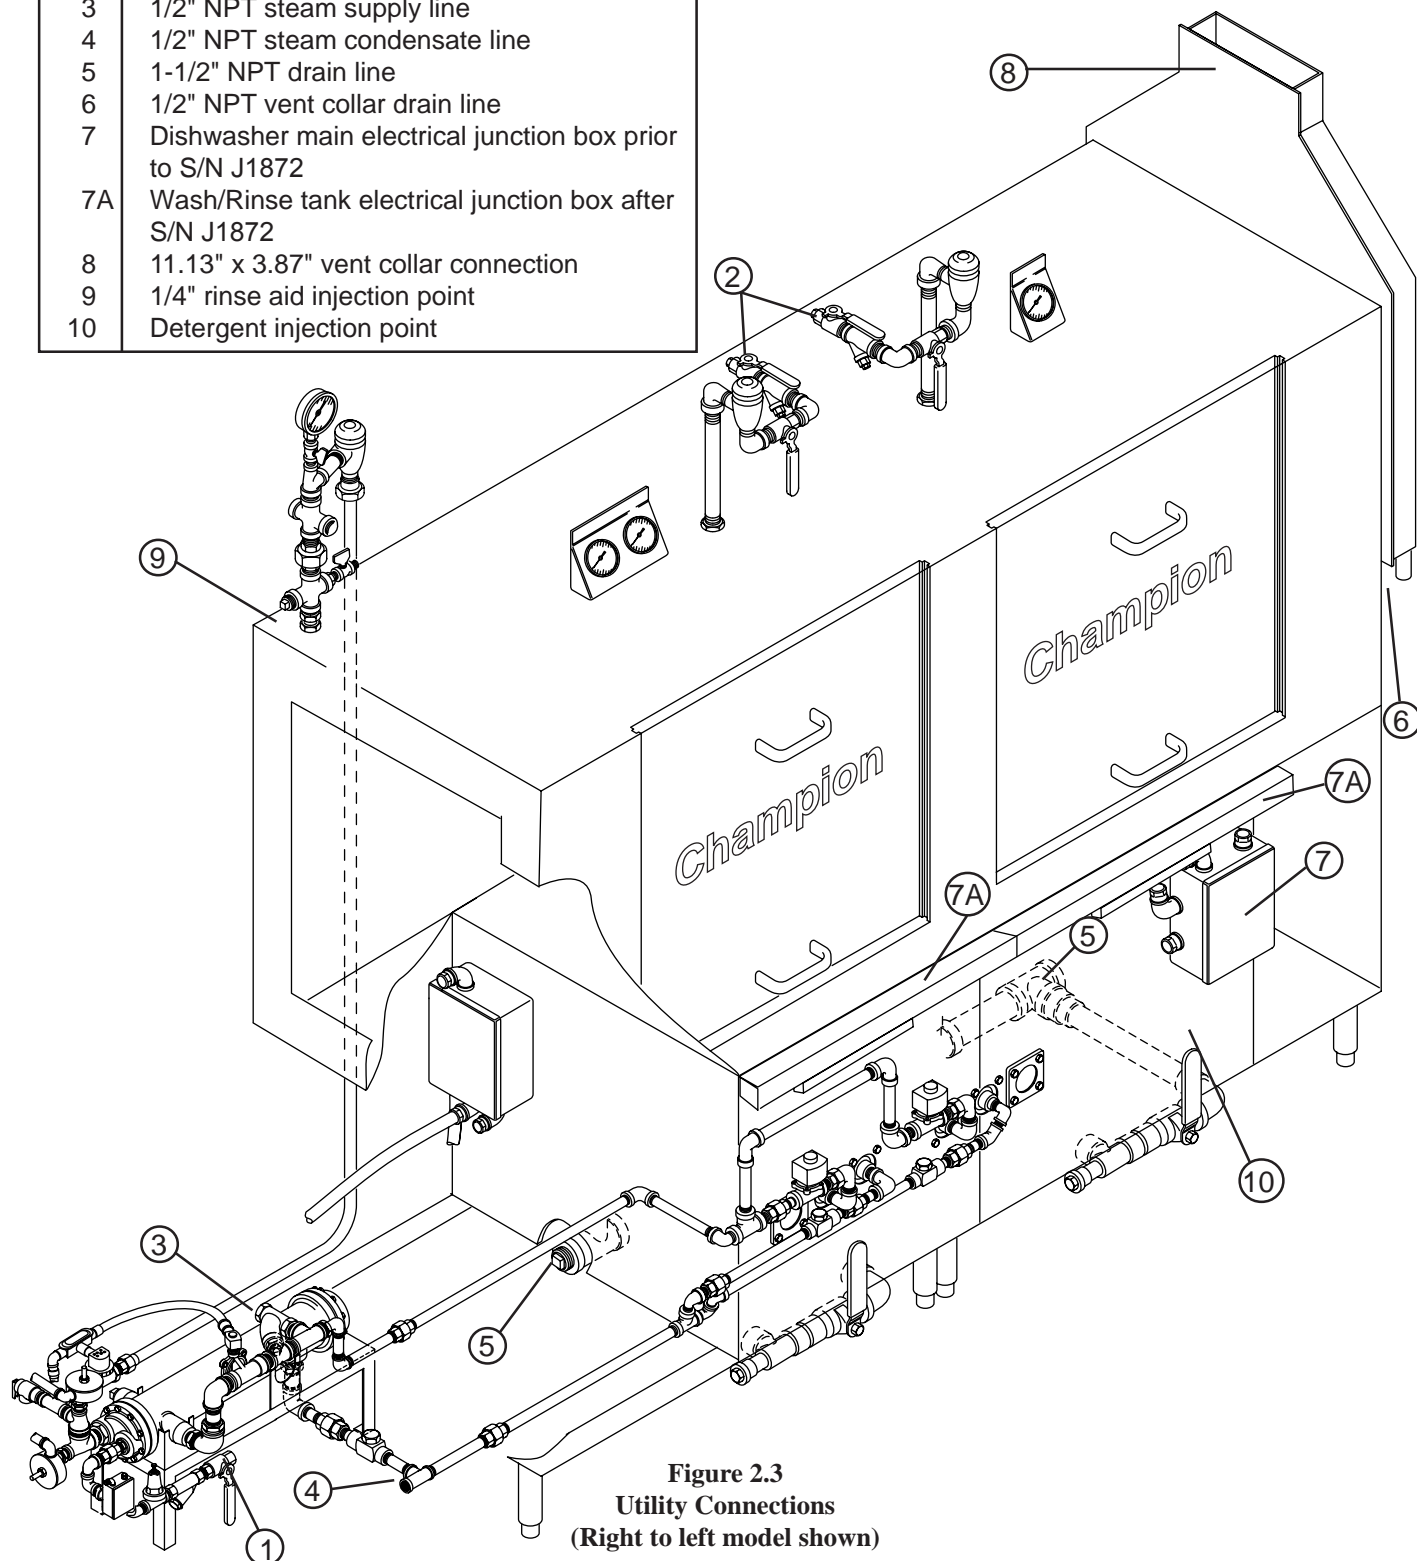
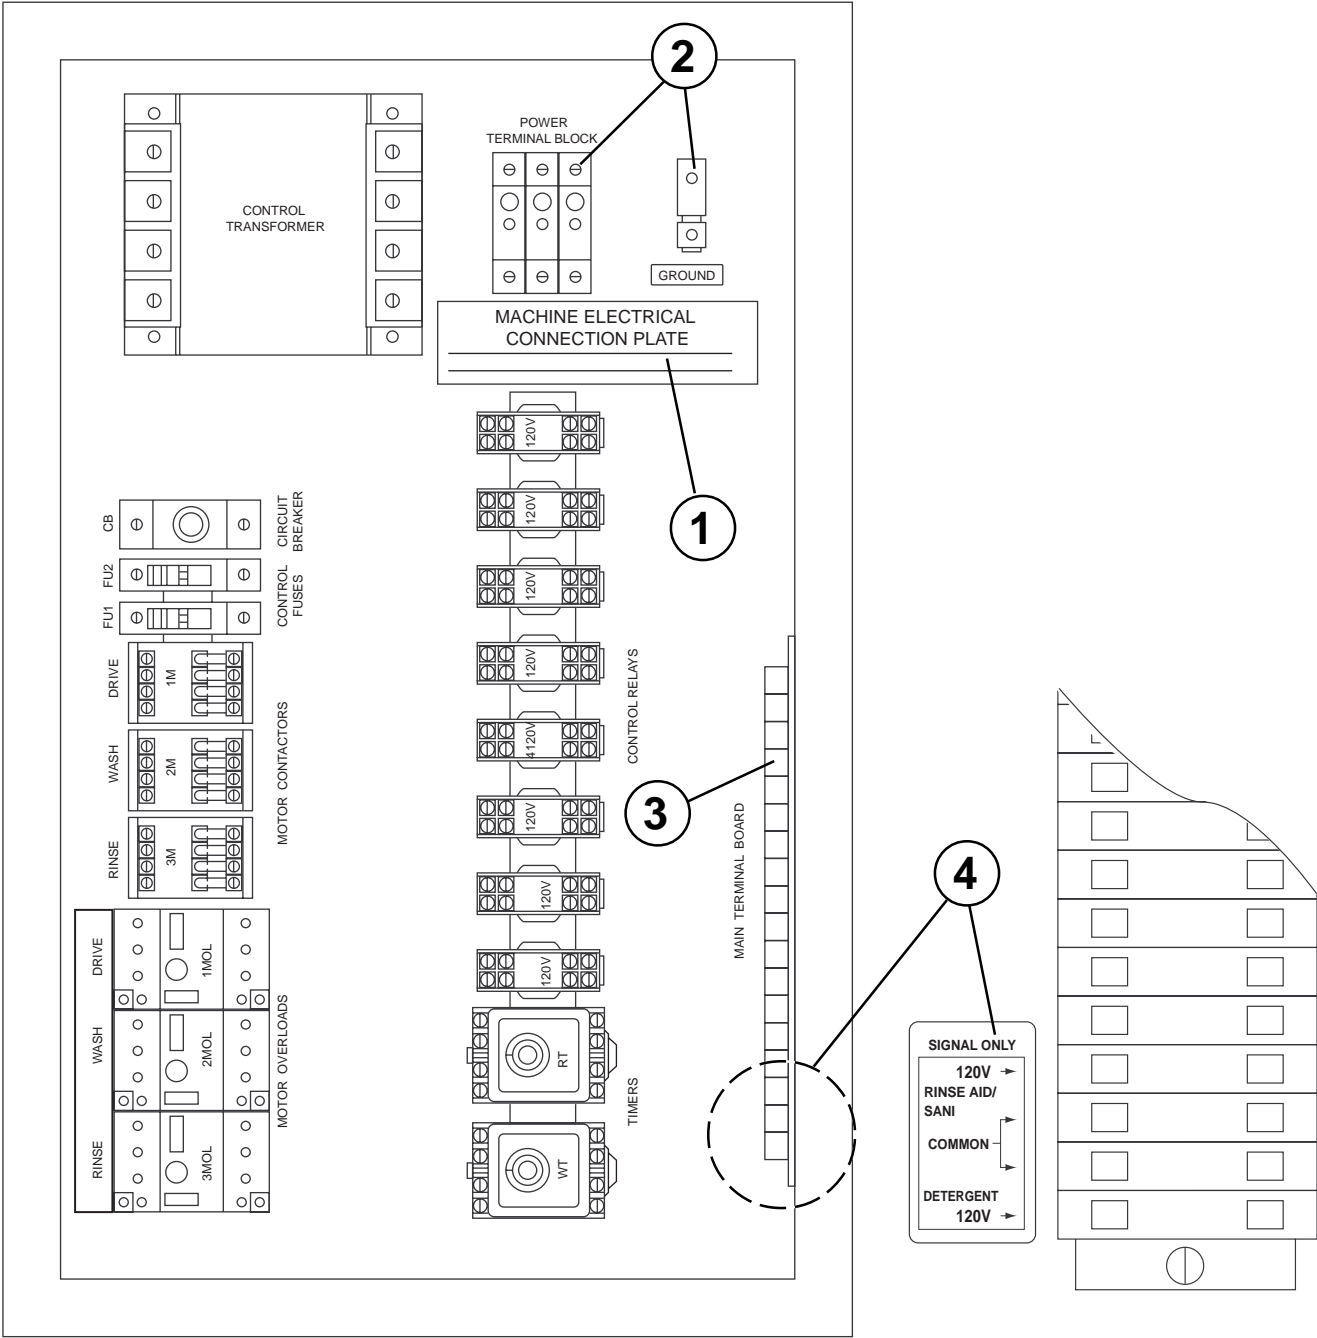

Figure 2.3
Figure 2.6
Refer to Figure 2.3 on the next page.
1. Connect a 3/4" NPT hot water supply line (110°F minimum) to the water inlet valve located at the booster. (See No. 1, Fig. 2.3.)
2. Connect a 1/2" NPT hot water line (140°F minimum) to the water inlet valve located at the top of the dishwasher. (See No. 2, Fig. 2.3.)
1. Connect a 1-1/2" NPT steam supply line to the line strainer located at the booster. (See No. 3, Fig 2.3)
2. Connect a 1" NPT steam condensate line to the tee fitting located at the booster. Condensate must be gravity return to the boiler or to a pumping trap. (See No. 4, Fig. 2.3)
Refer to Figure 2.3 on the preceding page.
The drain line is located underneath the dishwasher. (See No. 5, Fig. 2.3, page 11.)
2. Connect 1/2" NPT drain lines to the load and unload vent collars, (2) connections per collar. (See No. 6, Fig. 2.3, page 11.)
(See No. 8, Fig. 2.3, page 11).
Refer to Figure 2.3, page 11 and Figure 2.6, page 17.
1. A qualified electrician must compare the electrical power supply with the machine electrical specifications stamped on the MACHINE ELECTRICAL CONNECTION PLATE located inside the remote control cabinet (see No. 1, Fig 2.6, page 17) before connecting to the incoming service through a fused disconnect switch.
2. Refer to Figure 2.3, No. 7 and 7A (depending on serial number), on page 11. No. 7 indicates the location of the wash tank junction box for the right to left machine. The box is located on the opposite end of the dishwasher for a left to right machine. No. 7A indicates the location of the wash and rinse tank junction box.
Refer to Figure 2.6 on page 17.
4. Install the power supply wires from the local distribution panel to the remote control cabinet at the incoming power terminal block. (See No. 2, Fig. 2.6.)
5. For serial numbers prior to J1871, install the power and control wiring between the remote control cabinet and the main electrical junction box located on the front of the dishwasher. Wire numbers are marked on the main terminal board in the remote control cabinet. (See No. 3, Fig. 2.6 page 17.). Terminal board wire numbers correspond to wires marked in the dishwasher main junction box. Match wire numbers and connect.
Refer to Figure 2.3, page 11, and Figure 2.6, page 17.
1. Chemical dispensing signal connection points are provided on the main terminal board in the remote control cabinet. (See No. 4, Fig. 2.6, page 17.) Beginning with serial number J1872, these same connection points are also located in the wash tank junction box (No. 7 A, Fig 2.6 page 11). Either connection location can be used. A yellow label indicates the connection points.
5. The rinse aid injection point is located in the upper final rinse piping of the dishwasher. (See No. 9, Fig. 2.3, page 11.)
6. The chemical equipment installer must cut a hole in the wash tank for a detergent sensor and a detergent injection point. (See No. 10, Fig. 2.3, page 11.)